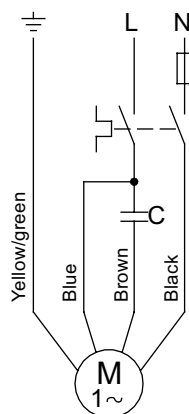

Fig. 14
4.6.2 The FRANKLIN 4" PSC motor should be connected to the mains via the motor protection, see fig. 14.